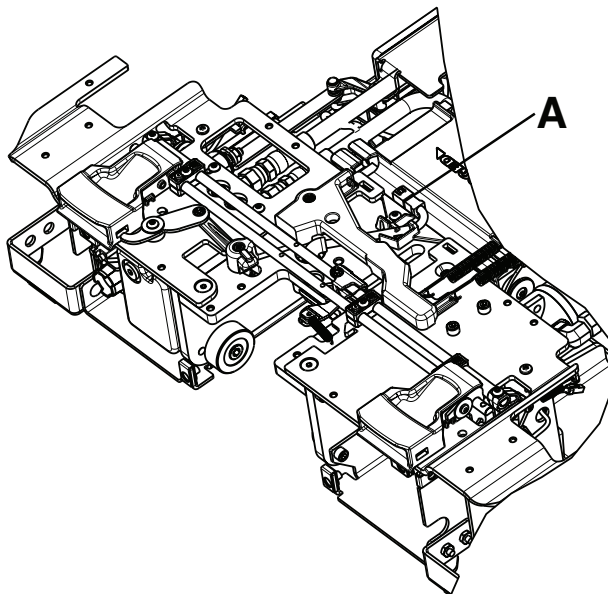

Figure 30 – Main cable assembly
3. Unplug the TPS cable (A) from the main cable assembly (Figure 30).